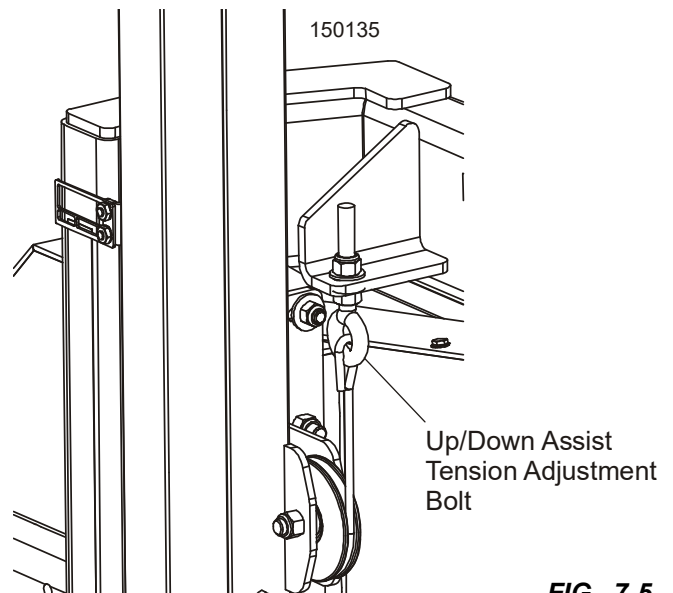

FIG. 7-5
1. Raise the saw head all the way to the top of the mast and secure with a chain. See FIG. 7-5.